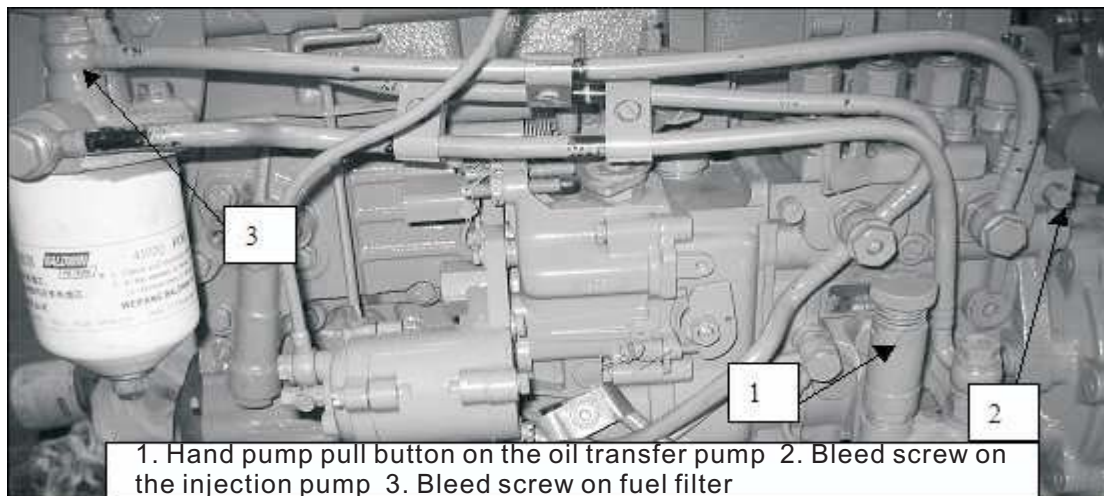

Fig. 2-1 Air drainage
- (1) Check that the oil level of sump should be between the upper and lower limits of vernier, with the oil volume of sump of about 12L.
- (2) Check the oil volume in the fuel tank.
- (3) Open the fuel tank switch to allow the diesel flow to injection pump.
- (4) Drain the air in the fuel system for new machine. (See Fig. 2-1)
- (5) Check the cooling system and add the water if necessary.
- (6) In case of cold freezing weather, place the diesel engine in antifreeze and cold defend site.